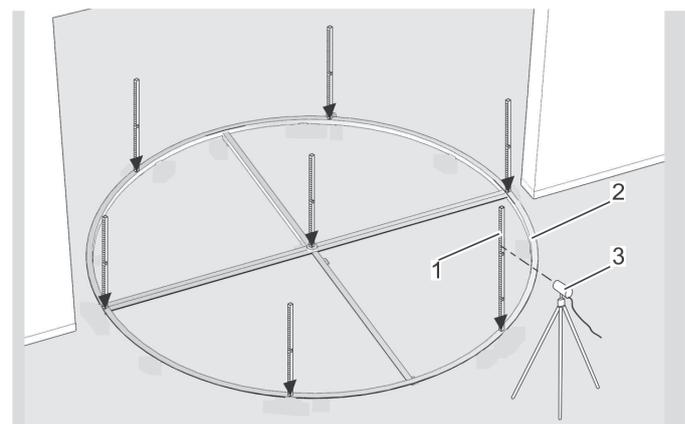

Fig. 31 Leveling the floor ring
1. Position the laser leveling device (Fig. 31/3) in front of the floor ring (Fig. 31/2).
2. Select a reference point, then position the leveling staff (Fig. 31/1) vertically at any point on the floor ring.